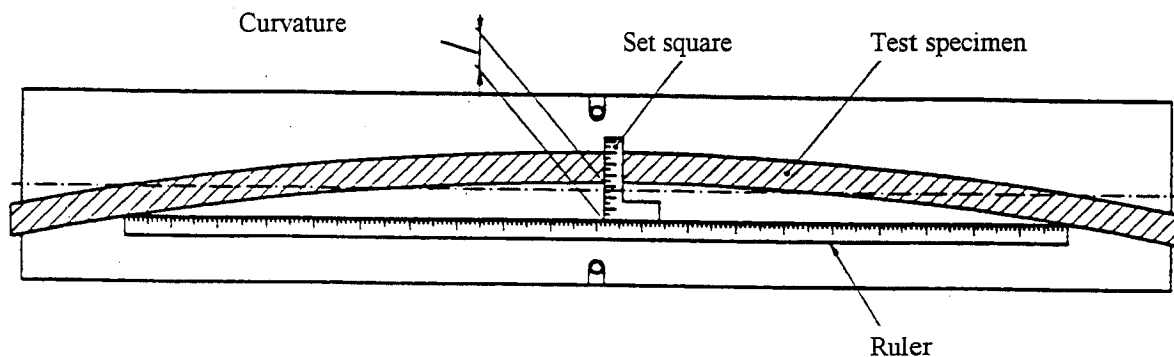

Figure 3 : Measurement of curvature
5.4 A set square of dimensions (100 x 150) mm with a scale accurate to the nearest 1 mm on its long side (see figure 3).
Place the rule on the transparent plastic sheet and line up the 0 mm and 1000 mm graduations with the inside edge of the tape as shown in figure 3.